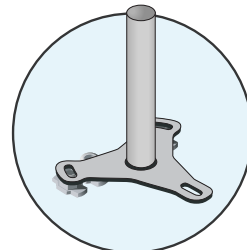

Fig 4.
7. Place the baseplate over the anchors to check position of anchors to the holes on the baseplate. If required, tap the anchor slightly to bring it back in line with the hole on the baseplate. (Fig 4)